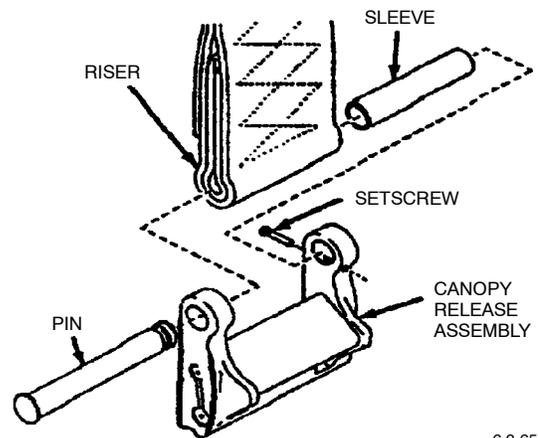

Figure 2. Disassembly of Canopy Release Assembly
- d. Extract sleeve from riser (Figure 2).